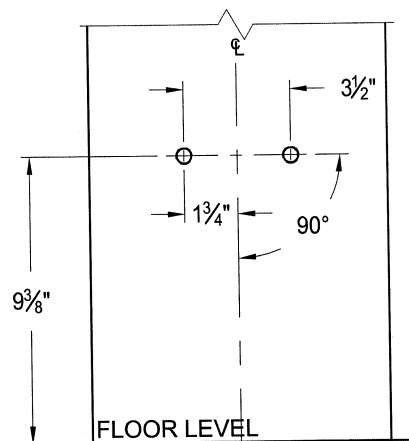

fig. 4
e. Measure and mark 9-3/8" up from finished floor along plumb line (fig. 4).